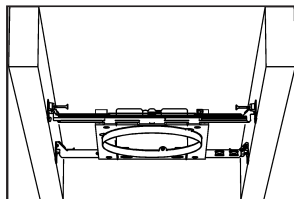
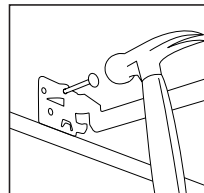

Figure 10
Figure 11
Step 1. Extend bar hangers to fit between joists. Bar hanger foot is contoured to easily align with bottom of joist (Fig.10). Position fixture by hammering Real-Nails® into joists (Fig. 11).